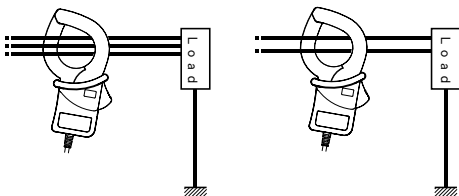

Fig.1 Measurement of leakage current on Zero-phase system
- (3) Measurement on Zero-phase system (see Fig.1)